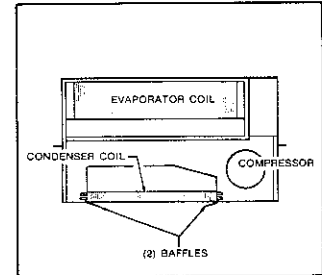

FIGURE 5 TOP VIEW
6. Remove baffles from condenser when the depth of the wall box being installed is greater than 10 inches. Wall boxes larger than 10 inches have baffles factory installed. (See Figure 5).
NOTE: Do not remove baffles from the condenser when a 10 inch wall box is installed. These baffles prevent air-recirculation of the discharge air. (See Figure 5).